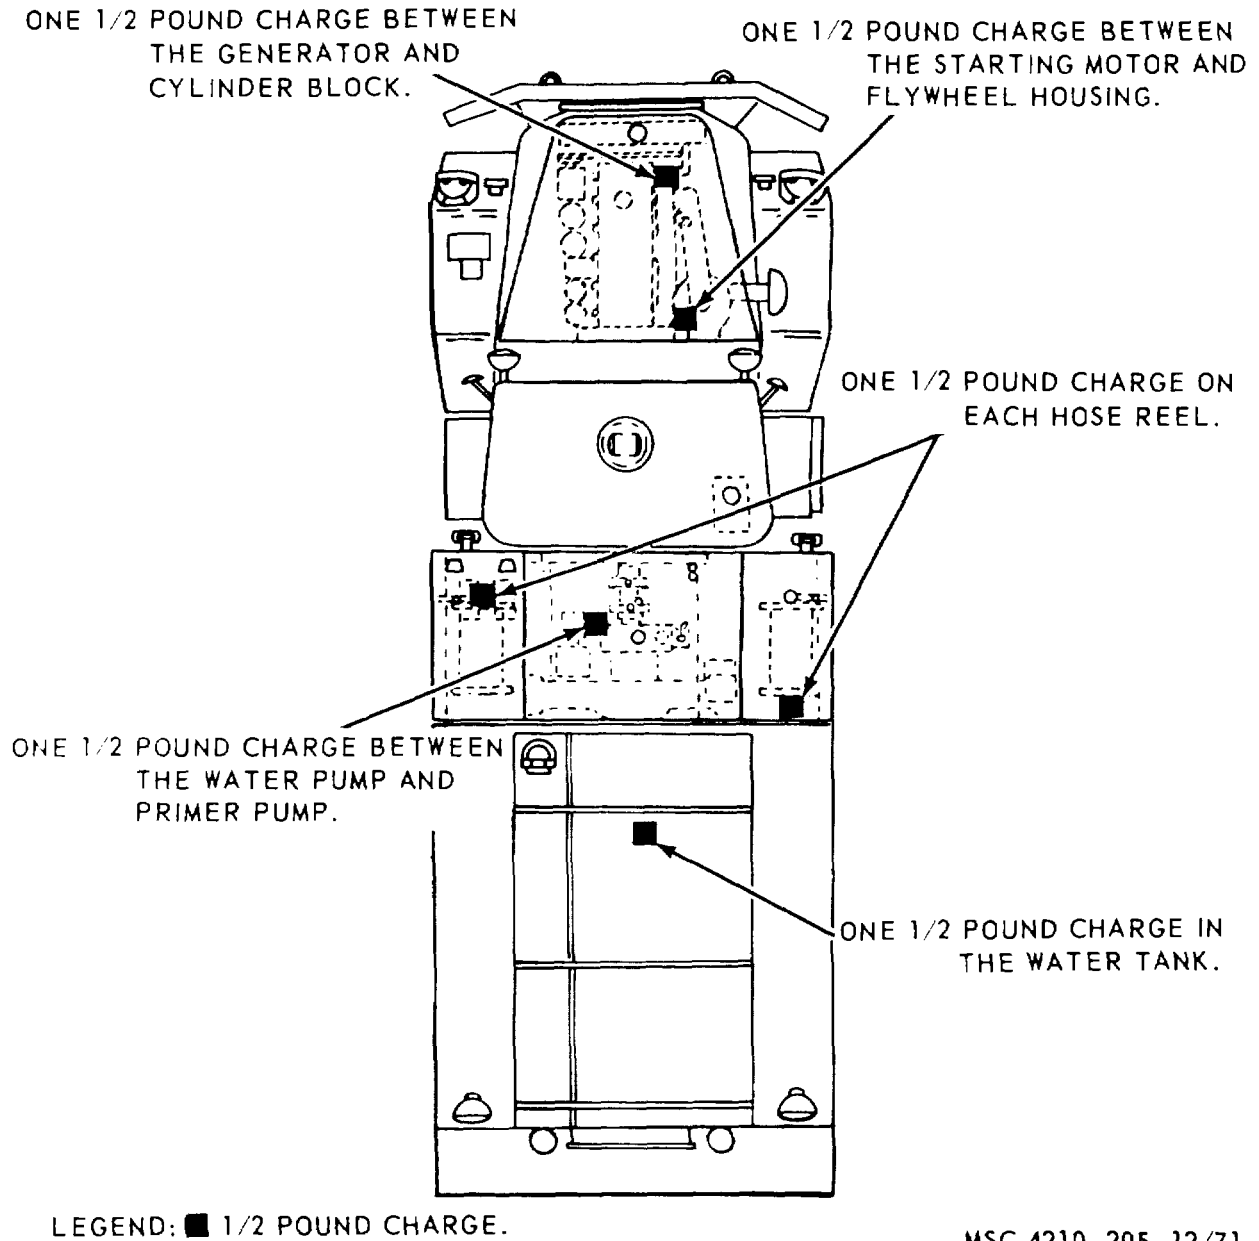

Figure 71. Placement of charges.
a. *Explosives.* Place as many of the charges shown on figure 71 as the situation permits and detonate them simultaneously with a detonating cord and suitable detonator.
- (1) One 1/2-pound charge between the generator and cylinder block.
- (2) One 1/2-pound charge between the starting motor and flywheel housing.
- (3) One 1/2-pound charge between fire pump and primer pump.
- (4) One 1/2-pound charge on each hose reel.
- (5) One 1/2-pound charge on water tank.